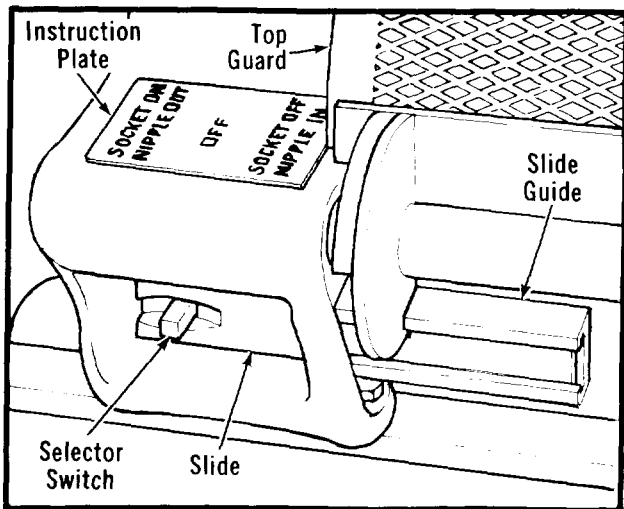

Figure 5. Selector Switch and Instruction Plate.
Note: The Selector Switch (Fig. 5) only prepares machine for operation, either forward or reverse. The Foot Switch must be activated for machine to operate. If operator removes his foot from Foot Switch the power unit will automatically stop.
5. Flip Selector Switch to "SOCKET ON" position (Fig. 5).
6. Flip Selector Switch (Fig. 5) to "NIPPLE IN" position.